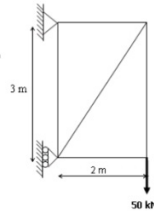

Figure: 2
2. Using tension coefficient method, analyse the plane truss supported and loaded as shown in Figure 2. [15]